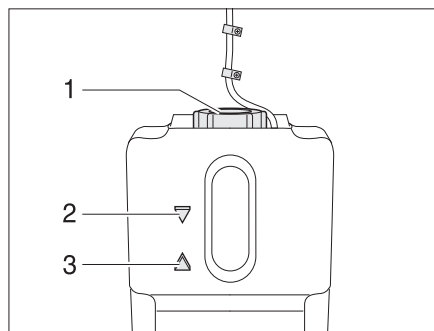

Fig. 172 Compensator reservoir hot-water heater
- Check if the fluid level is between the marks "MIN" (Bild 172,3) and "MAX" (Bild 172,2) on the compensator reservoir (Bild 172).
- Unscrew the screw cap (Bild 172,1) at the compensator reservoir.